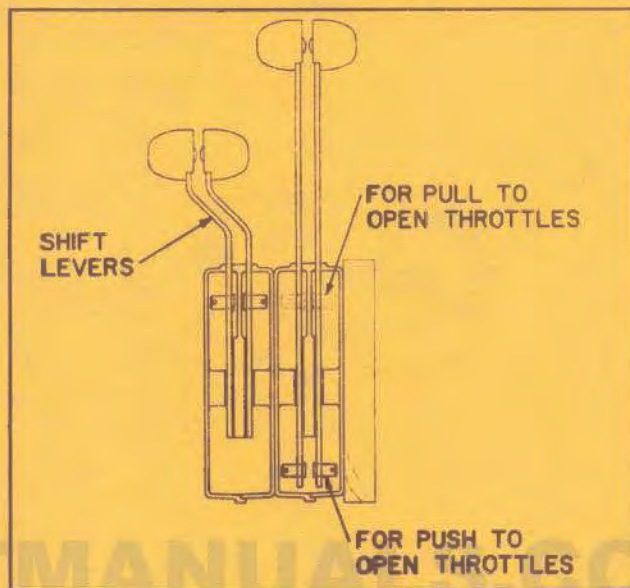

FIGURE 10
The shift lever (4) has a removable pin (10) for use with twin assemblies as in Fig. 10 where both shift levers are assembled in one case.